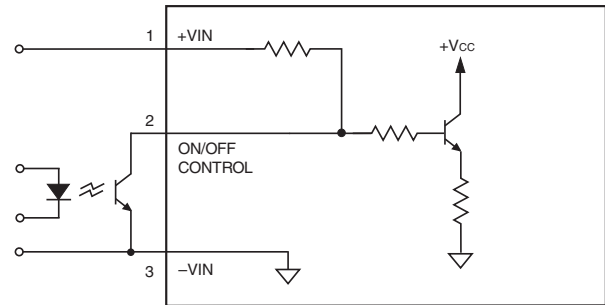

Figure 9. Driving the Negative Logic On/Off Control Pin
**"N" suffix:** Optional Negative-logic devices are off when pin 2 is left open (or pulled high, applying +3.5V to +13V), and on when pin 2 is pulled low (0 to 0.8V) with respect to -Input as shown in Figure 9.